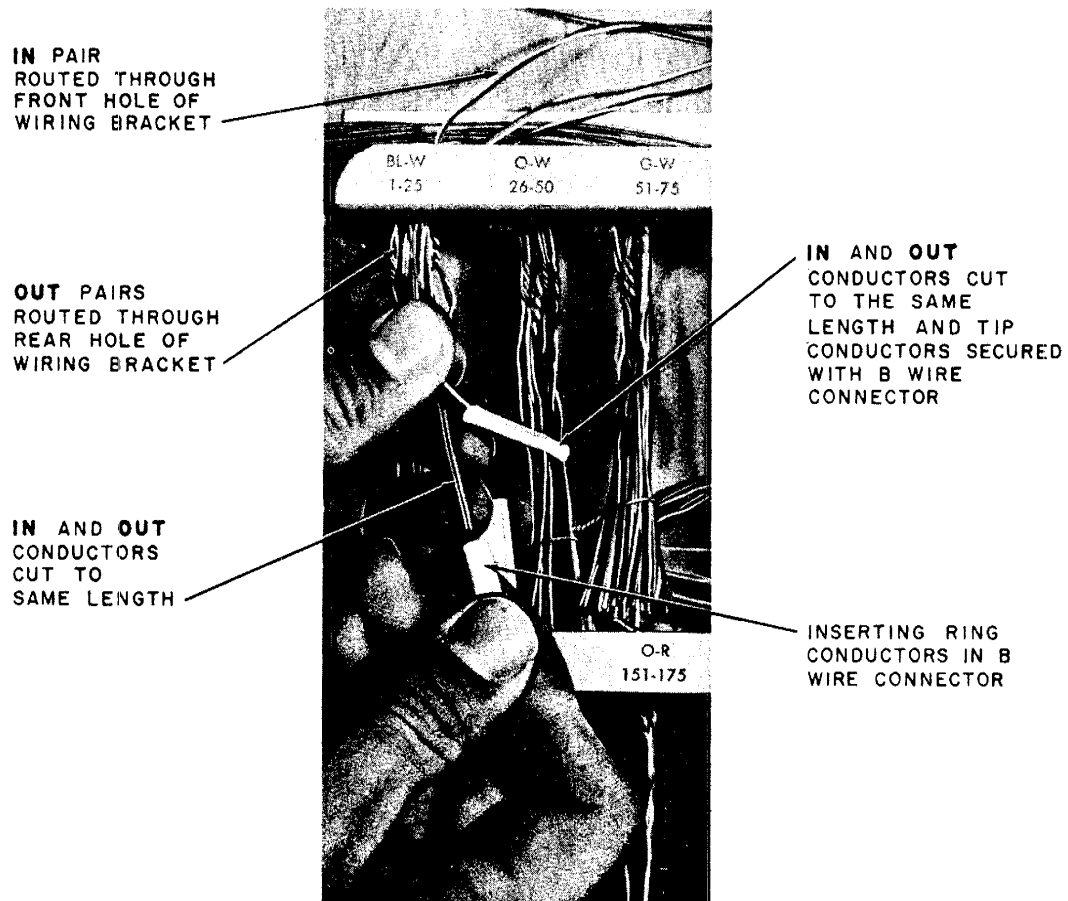

Fig. 11—Connecting **IN** and **OUT** Cable Pair
**5.06** Cut the assigned **IN** pair to the same length as the assigned **OUT** pair and connect with a B Wire Connector as shown in Fig. 11. If for any reason the **IN** pair is shorter than the **OUT** pair, piece out the **IN** pair (Part 6). Do not cut the **OUT** pair. Use only a B Connector Presser or Pneumatic Presser for crimping the B Wire Connectors.